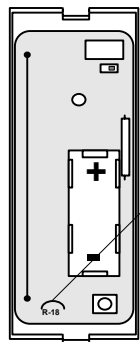

FIG 5: Activation of the Back Tamper
- 1) Remove the case locking screw and front cover. Look at the front of the PCB with the antenna showing (FIG 5)